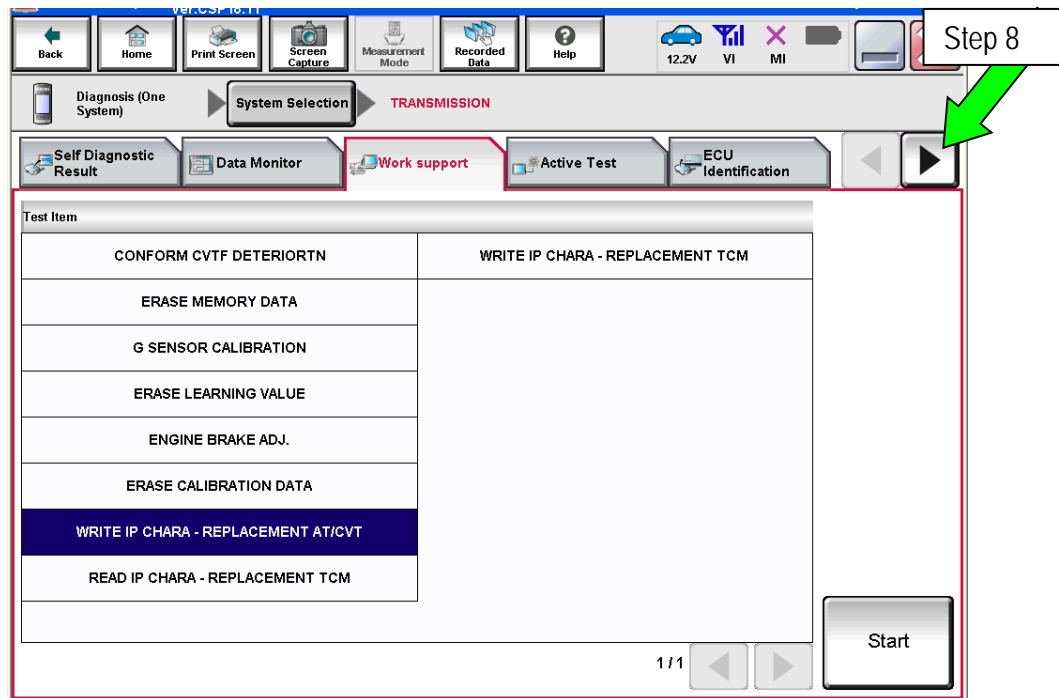

Figure 2
8. Select the scroll arrow shown Figure 2.